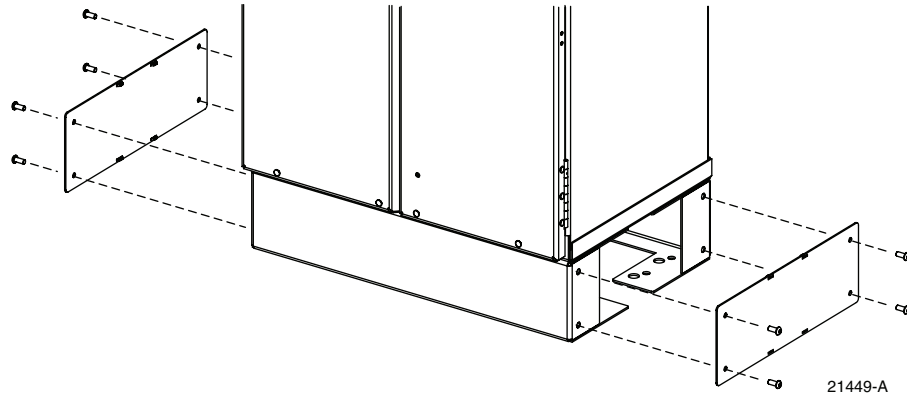

Figure 6. Removing Access Covers From Front of Ground Spacer/Riser
1. Use a 3/16-inch security hex-head wrench to remove the four screws that secure the access cover to the left and right sides of the cabinet ground spacer/riser as shown in Figure 6.